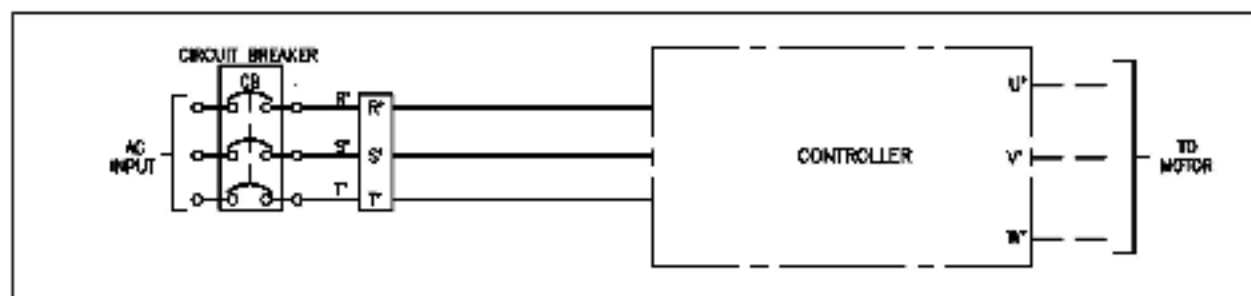

Figure 4. Circuit Breaker Connection Diagram (Controller with the Expanded Cabinet).
5. Disconnect the A-G input leads from the terminals R', S', and T' on the terminal board, if they are already connected. Refer to Figure 4 for wiring detail.
6. Connect the A-C input leads to the line side (TOP) of the circuit breaker. Refer to Figure 4 for wiring detail.
7. Using wire harness 803432-103S, (803432-103R if provided with the 1–20 HP expanded cabinet kit) connect the load side (BOTTOM) of the circuit breaker to terminals R', S', and T' on the terminal board. Refer to Figure 4 for wiring detail. (Refer to Table 3 for wire terminal tightening torques.)